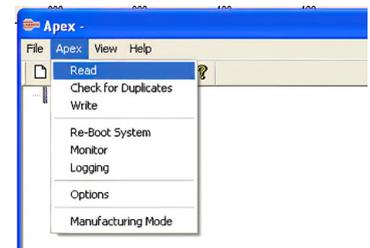

Fig 8
3. Choose: 'Apex' > 'Read' [Fig. 8] (or click 'Rd').